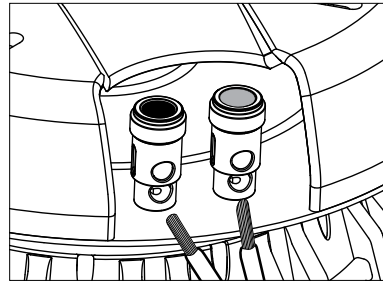

Figure 3. Spring-loaded speaker wire connectors.
8. The speaker has black and red spring-loaded connectors (**Figure 3**). Black is for the negative (-) wire and red for the positive (+). It is important to observe correct wiring polarity. This is especially important for the Stereo Input (SI) Loudspeaker. If you have wire other than black and red, make sure you connect it the same on the amplifier end as the speaker end. Failure to do so will adversely affect the loudspeakers' performance.